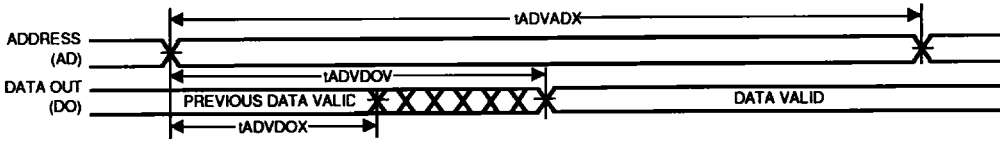

Figure 3. Read Cycle — Address Controlled
**Table 5. Read Cycle** 1, 2, 3, 4, 5 (See Figures 3 and 4.)